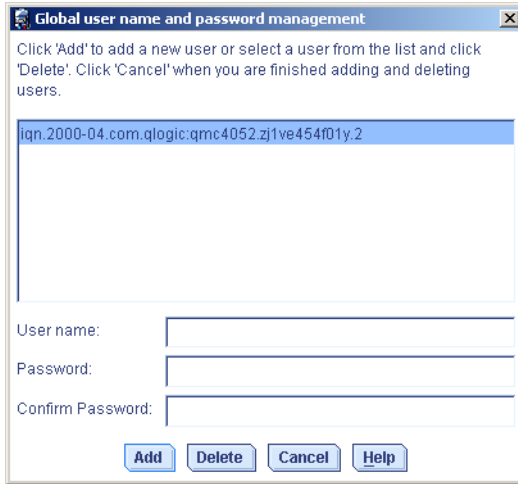

Figure 4-76 Global user and password management
21. Click **Cancel** after you have created all required accounts. See Figure 4-76 on page 126.